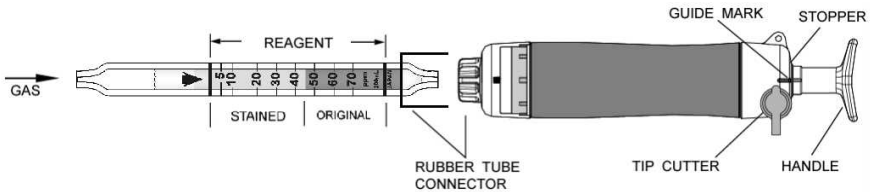

Fig.1
- ② Insert the detector tube into the aspirating pump securely as shown in Fig.1. (Arrow mark shall point to the pump.)
- ③ Align the guide marks on the shaft and stopper of the aspirating pump.
- ④ Pull the pump handle at a full stroke until it locks and wait for 2 minutes or until the completion of sampling is confirmed with the flow indicator of the pump. (See descriptions about the flow indicator in the instruction manual of the pump.)
- ⑤ Push back the handle without removing the detector tube from the rubber tube connector so that air in the pump will be discharged perfectly. Then repeat the steps ③~④ once more.
- ⑥ On completion of sampling, read the scale at the maximum point of the stained layer.